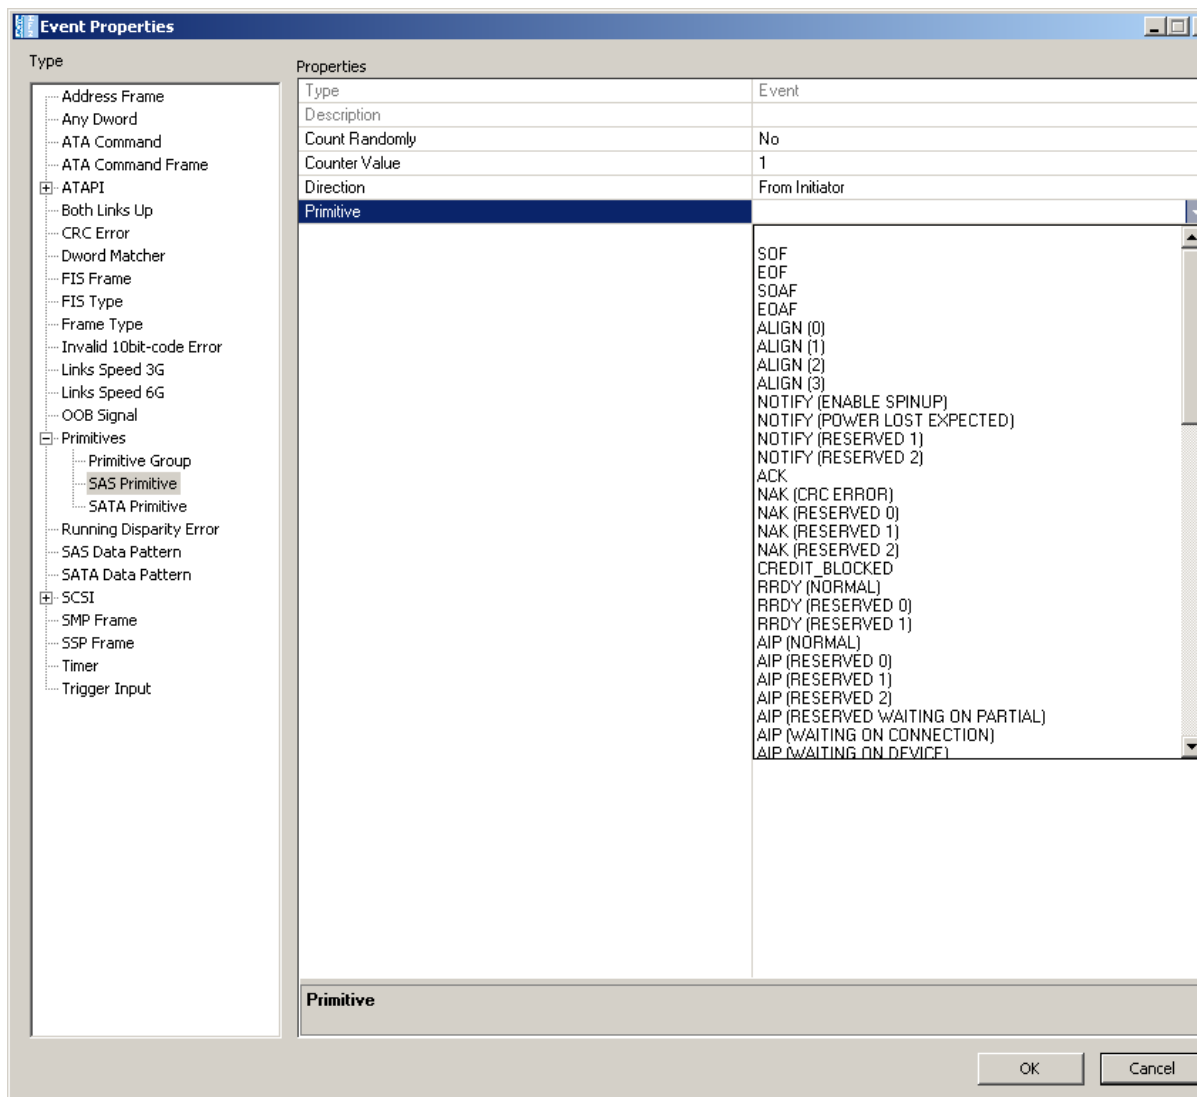

Figure 4.25: Example 1: Event Drop-Down List
7. Still in the middle column of the Event Properties dialog box, click **Primitive** to display a drop-down menu that lets you choose the type of primitive for which to substitute for RRDY (Normal) (see Figure 4.25 on page 336). Choose **ERROR**.